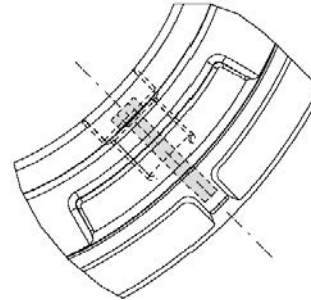

Figure 13: Snow Plow Ring Bolt Location
14. Pour concrete around the Defender Series™ spill container, making sure to dome the concrete at least 1" (2.54cm) to allow for adequate runoff. The sloping of the concrete should begin at the outer edge of the concrete ring tabs (Figure 13). Keep the snow plow ring and cover clean and free of any concrete splatter (the snow plow ring must be able to be removed if service is needed).